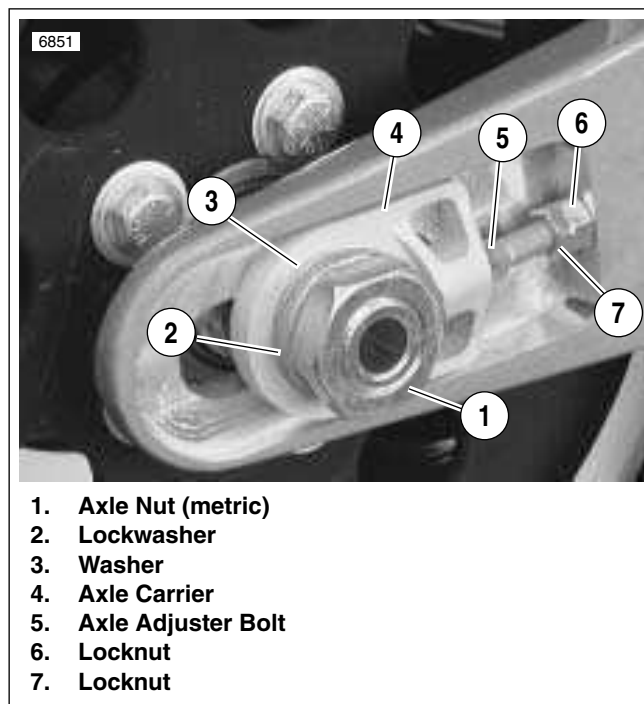
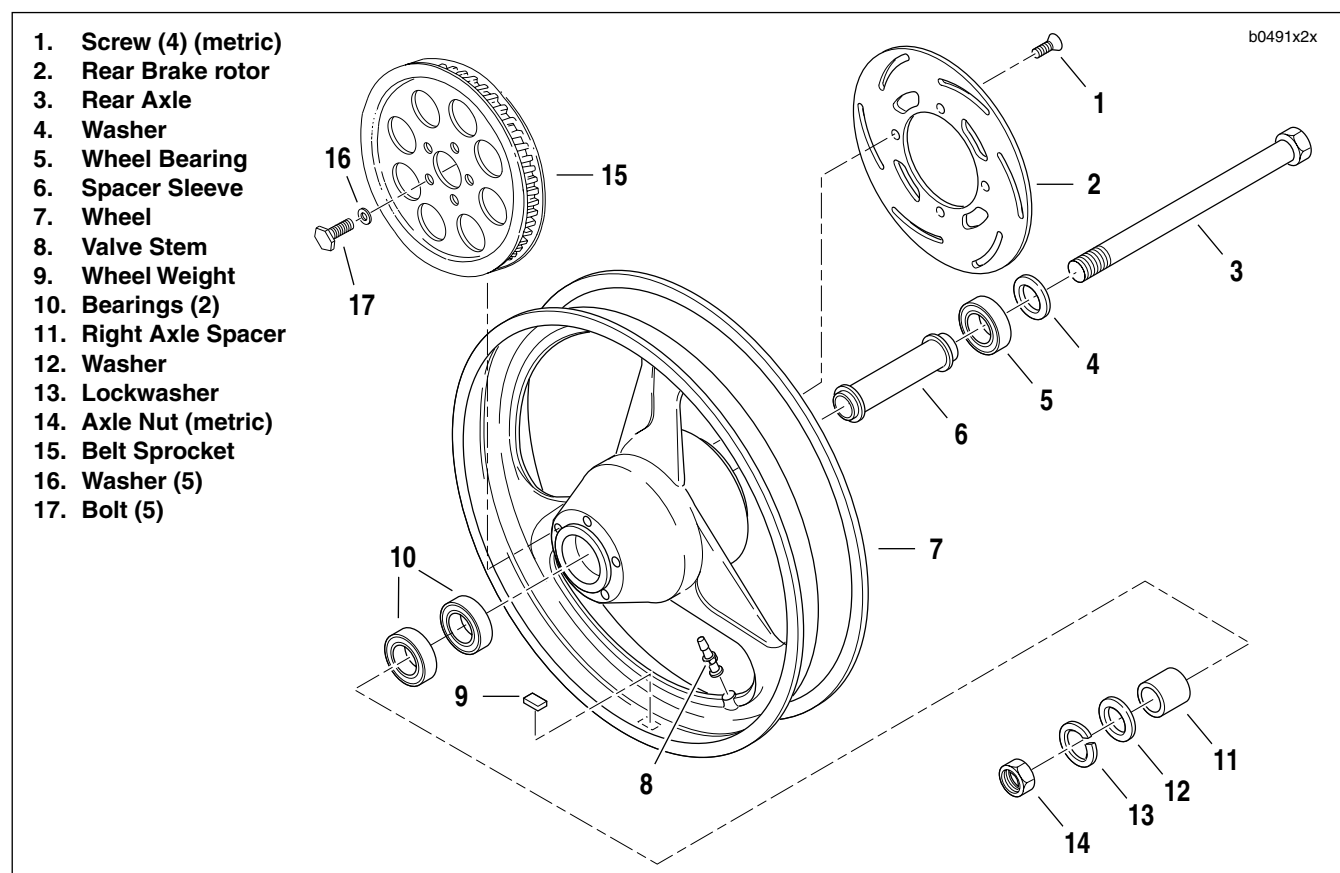

Figure 2-8. Rear Wheel Mounting, Right Side
Figure 2-9. Rear Wheel
3. See Figure 2-8. Loosen rear axle nut (1) (metric).
4. Loosen rear axle adjuster locknuts (7) and adjusters (5) on both sides. Push wheel as far forward as possible.
6. Remove rear axle nut (1) (metric), lockwasher (2), washer (3) and axle carrier (4).
7. See Figure 2-9. Pull axle (3) and washer (4) out from left side and remove wheel. Support caliper mount from frame.
2. See Figure 2-9. Remove two bearings (10) from sprocket side of wheel.
3. Remove four screws (1) (metric) to detach rear brake rotor (2) from wheel hub. On vehicles with P/M wheels, remove nut from each screw.
4. Remove five bolts (17) and washers (16) to detach belt sprocket (15) from wheel hub.
1. See Figure 2-9. Install rear brake rotor (2) on side of wheel hub with room for a single wheel bearing. Place rotor surface listing minimum thickness specification away from wheel hub.
- b. Apply LOCTITE THREADLOCKER 272 (red) to each of the four screws (1) (metric).